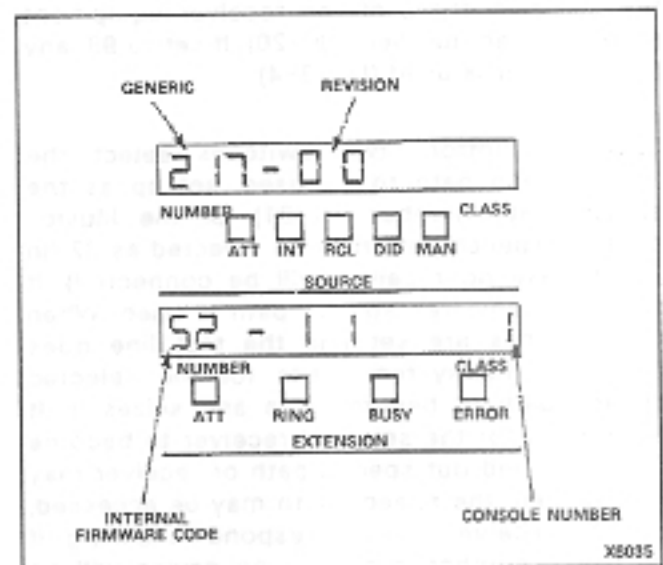

Fig. 3-3 Typical Identification Display
3.05 If the IDENT button is pressed when the console is idle, the SOURCE display will show the installed firmware generic number, and its revision. The DESTINATION display shows an internal firmware code and the number of the console at which the key was pressed (see Fig. 3-3). If the IDENT button is pressed when the attendant is connected to either a source or destination party, the SOURCE and DESTINATION displays will change to show the equipment numbers and